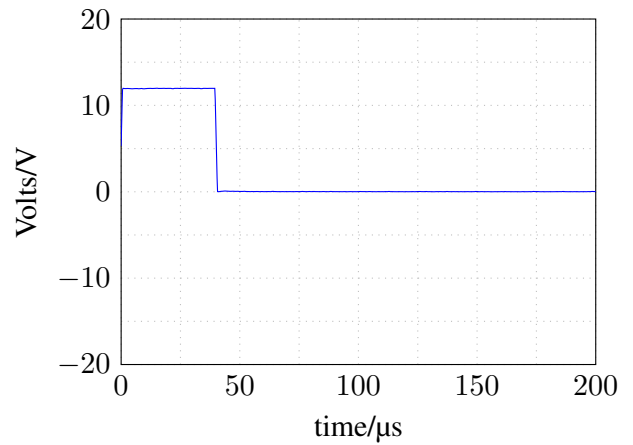

Fig. 61: Pulse length observed on SLEW for fast slew rate setting.
2. Turn **TR1** for a pulse width of about 40 μ s (Fig. 61).